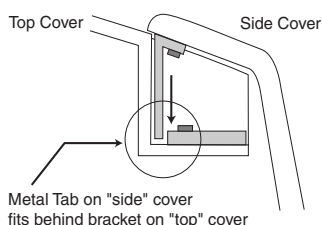

Figure A-2 Side and Top Cover Clasp
- 1.) Place the side cover over the top cover. Slide the side cover down until the two (2) side cover latches slide behind the metal tabs located on the top cover (see Figure A-2).